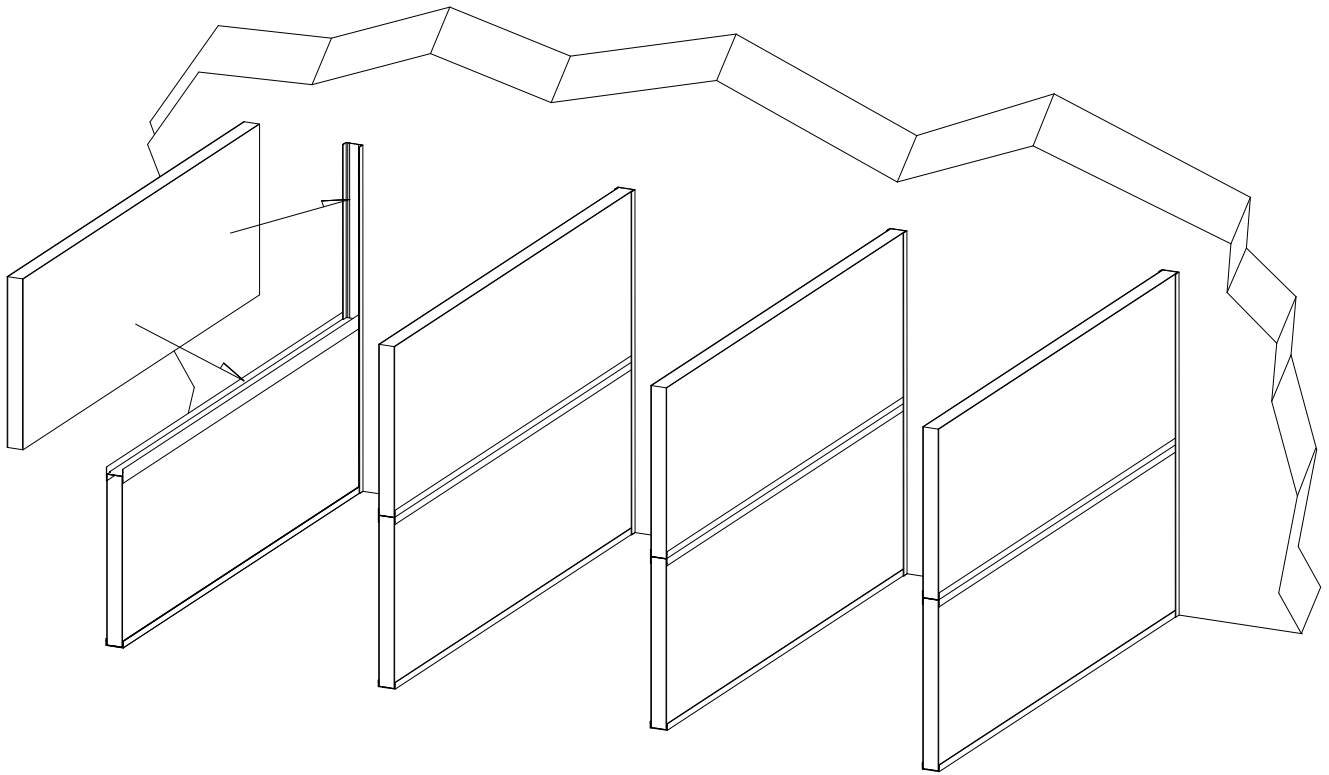

Figure 16
9. Install the upper filler panels into the “E” and “B” channels. See figure 16.